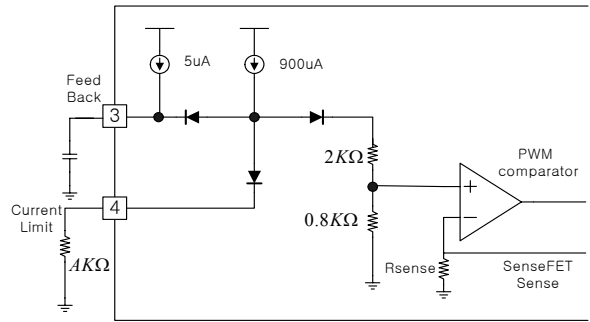

Figure 14. Peak current adjustment
8. Adjusting Current limit function: As shown in fig 14, a combined $2.8k\Omega$ internal resistance is connected into the non-inverting lead on the PWM comparator. A external resistance of A on the current limit pin forms a parallel resistance with the $2.8k\Omega$ when the internal diodes are biased by the main current source of $900\mu A$.